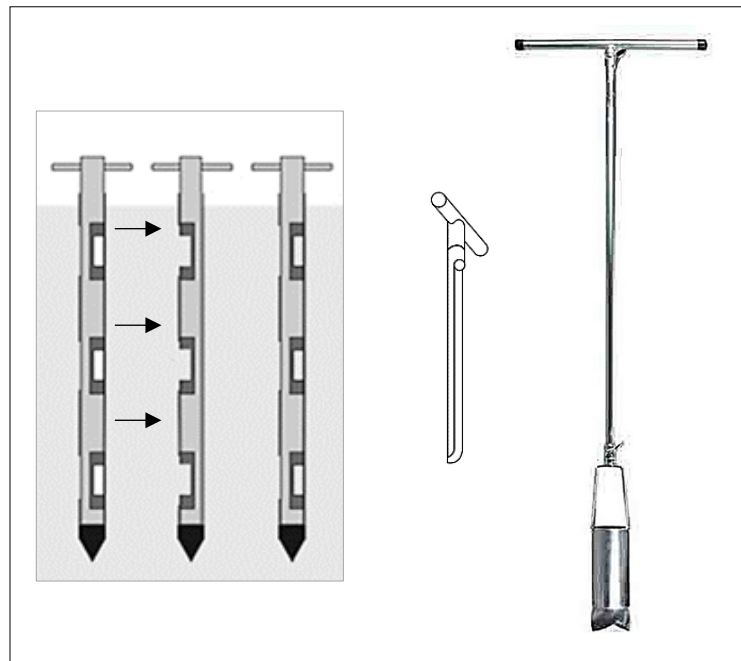

Figure 14-2. Thief, trier, and soil auger (equipment not to scale).
- **Thief samplers** are useful when sampling drier residuals such as compost or pellets. A thief sampler consists of two slotted tubes, one of which fits inside the other. The outer tube has a pointed tip that allows the sampler to penetrate the residuals being sampled. Rotating the inner tube opens and closes the sampler. Thief samplers are usually made of stainless steel or brass (Figure 14-2).